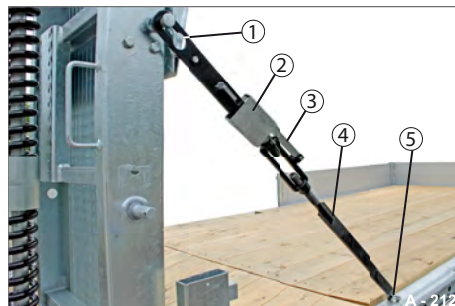

Fig. 49 Securing tensioner 2 overview
► Turn the lever (Fig. 51/1) until the hook (Fig. 49/4) can be removed from the lashing ring (Fig. 49/5).